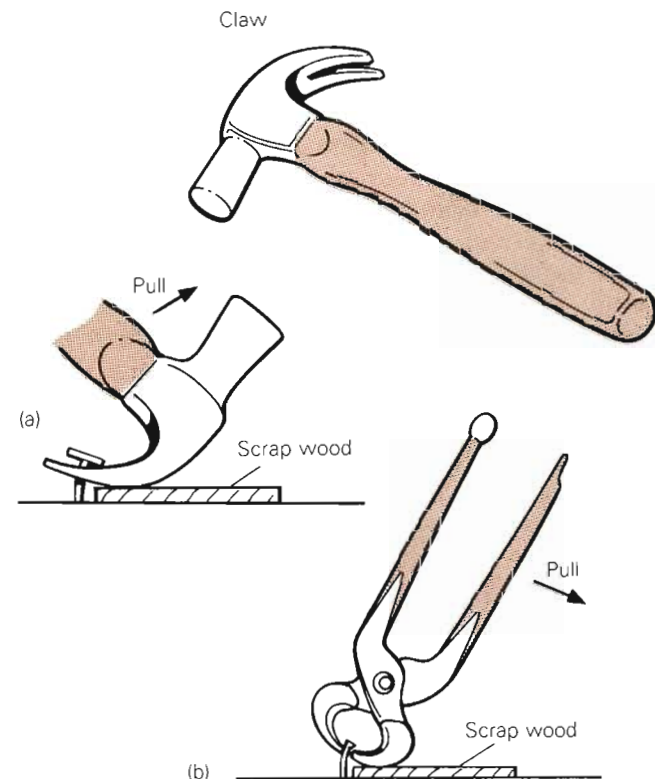

Figure 6.2 Extracting a nail: (a) using a claw hammer, (b) using pincers.
5. When you are removing a nail from a board place a waste piece of board under the jaw of the pincers or the claw hammer to protect the surface of the top piece and provide a greater leverage (see Figure 6.2).